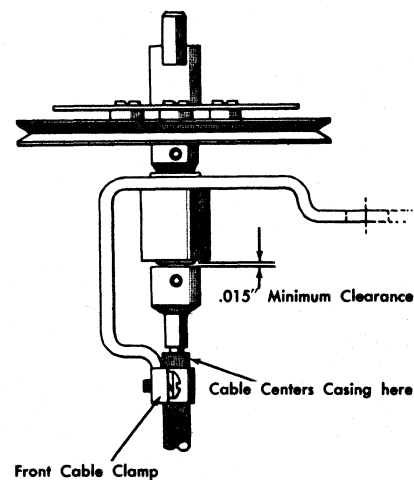

Figure 124. Tape Rewind
3. Adjust front flexible cable bracket so that flexible cable revolves freely without rubbing against edge of casing. Set minimum clearance of .015-inch between flexible shaft hub and bearing. (Figure 124).